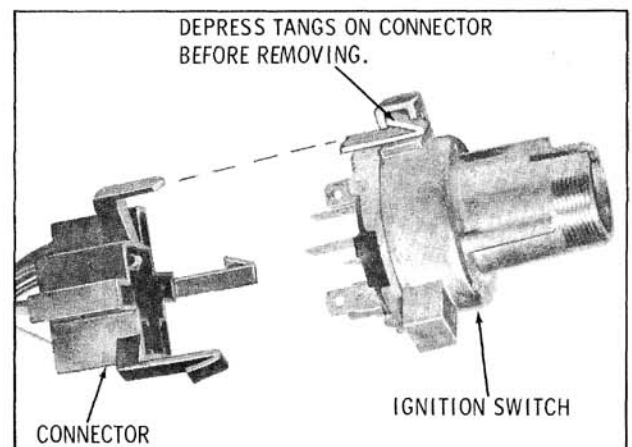

Fig. 13-72 Ignition Switch (All Series)
1. Install the vacuum advance with the ground lead terminal under the inner mounting screw. (Fig. 13-72)
instrument panel, the connector can be removed as shown in Fig. 13-72.